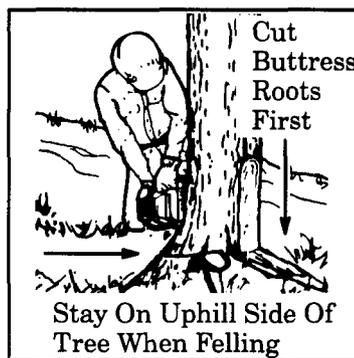

Figure 17
- Plan to stand on the up-hill side** when cutting on a slope. Figure 17 .